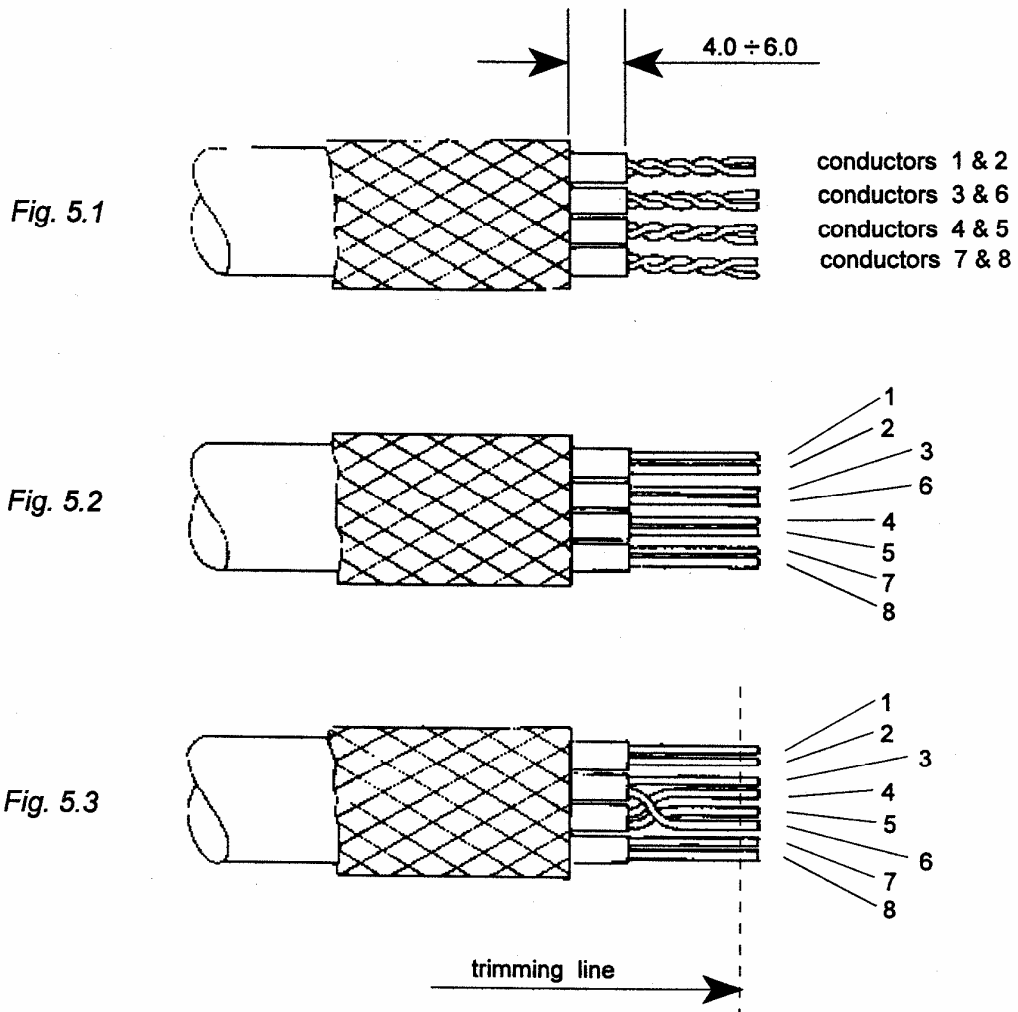

Figure 5: Cable Arrangement for cables with Shielded Twisted Pairs
**B. Conductors Arrangement for Cables with Shielded Twisted Pairs (Figure 5)**